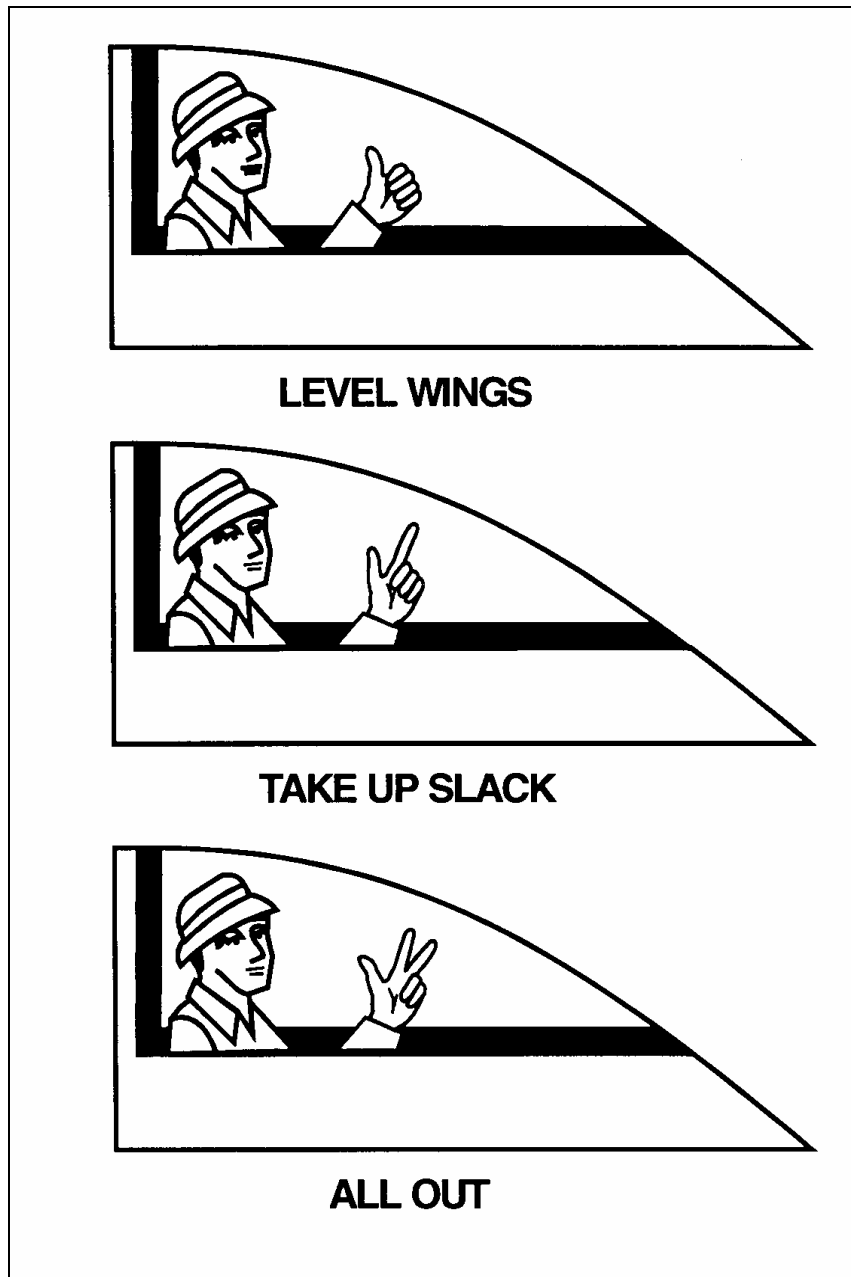

Figure 6-3-6 Take-off hand signals
45. Once you are set to go, give the correct signals (Figure 6-3-6), remembering to keep the wings level using the ailerons. Maintain directional control with the rudder. Allow the glider to achieve a level attitude and maintain this until airborne. The glider should lift off at about 45 mph. Ideally, the pilot will fly at 3 to 5 feet AGL and keep in position directly behind the tow aircraft. You will find that you have to apply forward pressure on the control column as the glider increases speed.